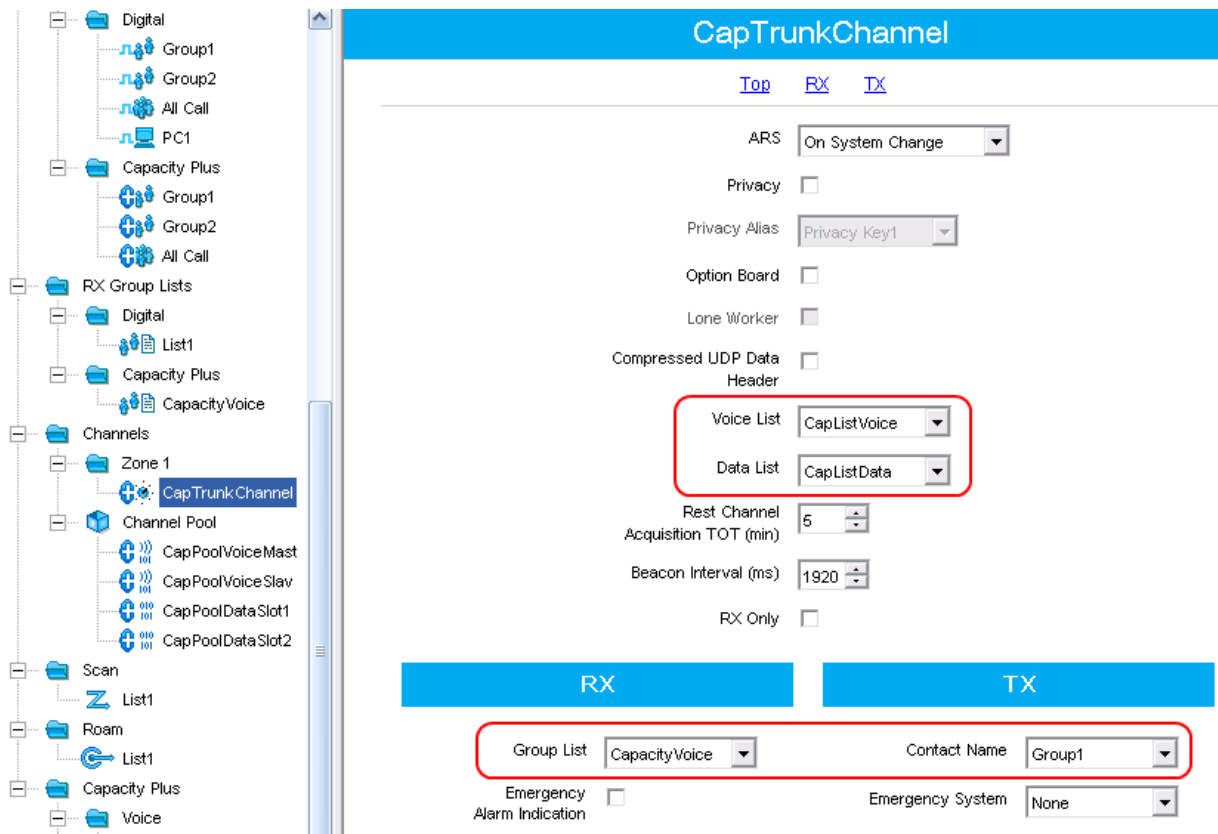

Fig. 28 - Creating trunk channel
9. Create Capacity Plus trunk channel (Fig.28).